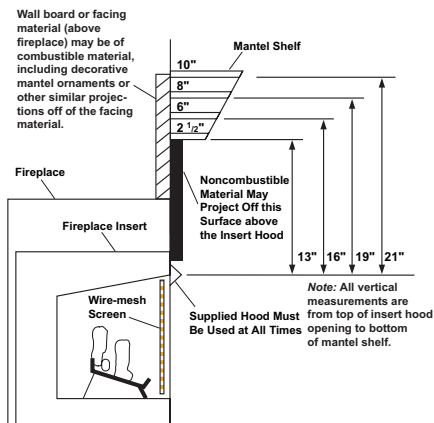

Figure 12 - Minimum Mantel Clearances for Fireplace Insert Installation
- A. Clearances from side of fireplace cabinet to any combustible material and wall should follow diagram in Figure 12, page 12.
If there is a mantel above masonry fireplace, you must meet minimum clearance between mantel shelf and top of fireplace opening (see Figure 12).
Installation of this fireplace insert involves installing fireplace insert into wood burning fireplace. If using a mantel above the fireplace, you must follow the clearances shown in Figure 12, page 12. Follow instructions below to install fireplace insert in this manner.